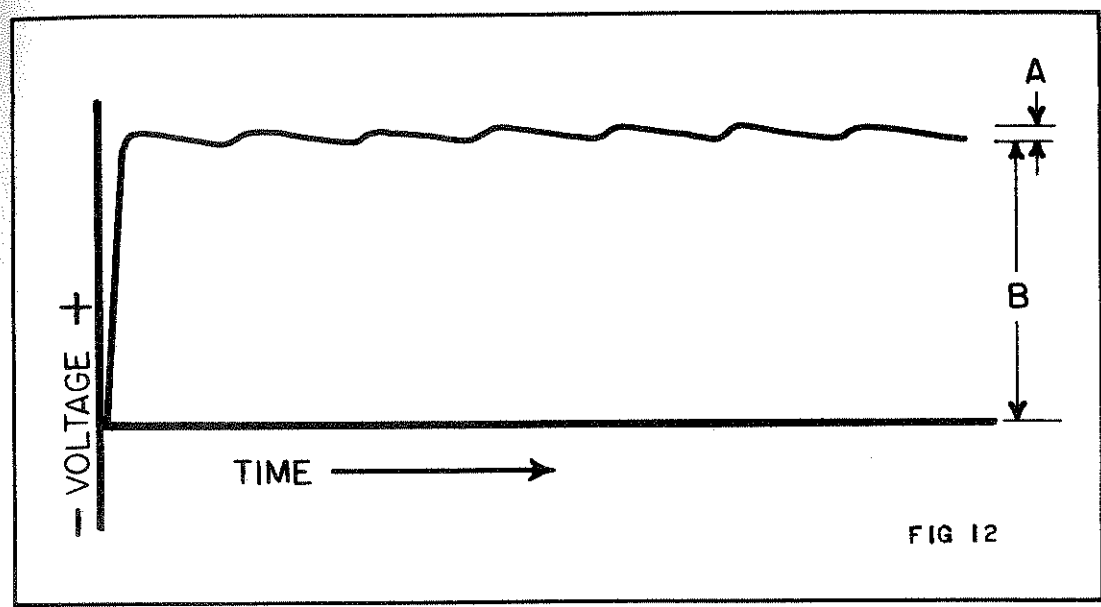

FIG 12
C. COMPOSITE DC AND AC VOLTAGES: THE MOST IMPORTANT FUNCTION OF A COMMERCIAL CATHODE RAY OSCILLOSCOPE IS THE ANALYSIS OF AC WAVE-SHAPES. HOWEVER CERTAIN AC POTENTIALS MAY BE A PART OF A COMPOSITE AC AND DC POTENTIAL. AS A SIMPLE EXAMPLE, THE VOLTAGE ACROSS THE INPUT FILTER CONDENSER OF A POWER SUPPLY WILL BE A DC VOLTAGE UPON WHICH IS SUPER-IMPOSED AN AC RIPPLE. SEE FIG. 12.